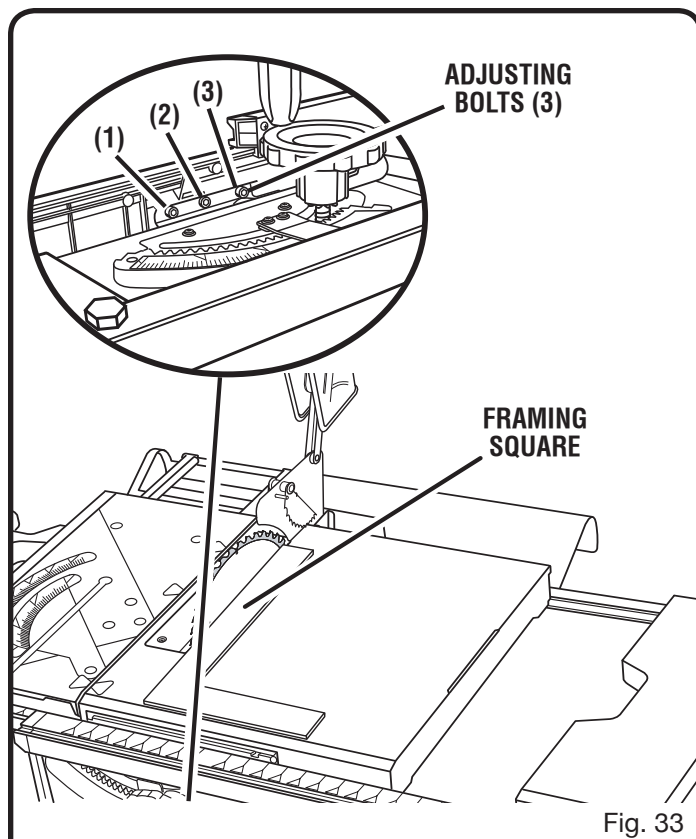

Fig. 33
See Figures 33 - 35.
- Mark beside one of the blade teeth at the front of the blade. Place a framing square even with the front of the saw table and the side of the saw blade as shown in figure 33.